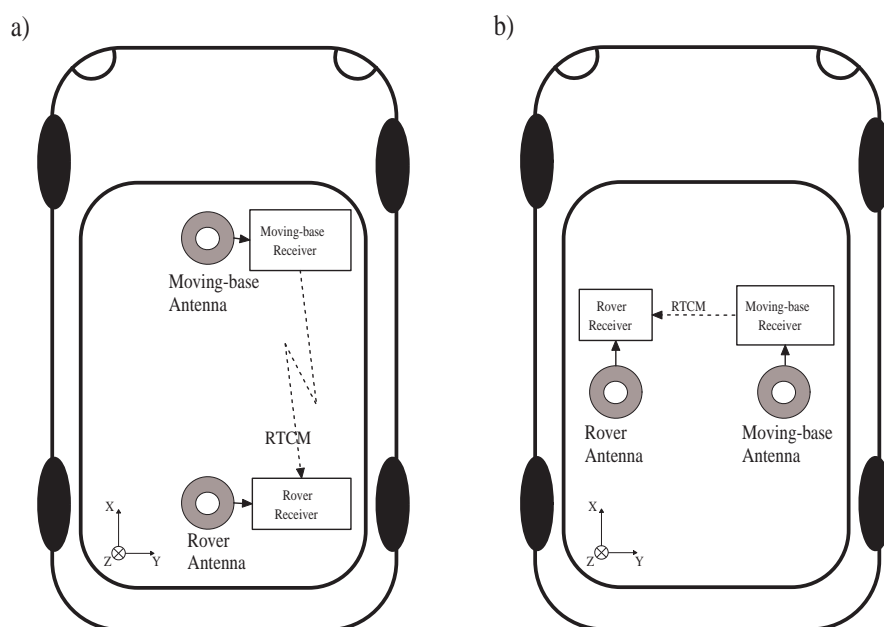

Figure 1-5: Moving-base attitude determination setup. a) default configuration. b) example of non-default configuration.
The heading and pitch of a vehicle can be derived from the orientation of the baseline between a base and a rover antenna when both antennas are attached to the vehicle. The base antenna is connected to a first receiver configured as RTK moving base station. The rover antenna is connected to a second receiver configured as RTK rover and accepting the RTCM stream from the first receiver. This is illustrated in Figure 1-5.
1. Attach two antennas to your vehicle. The default antenna configuration is as depicted in Figure 1-5 a). It consists in placing the antennas aligned with the longitudinal axis of the vehicle. If such configuration is not possible, you will have to provide additional information to the receiver, as explained below. For best accuracy, try to maximize the distance between the antennas, and avoid significant height difference between them.
5. By default, the attitude angles are computed assuming that the two antennas are aligned with the longitudinal axis of the vehicle, and that the moving-base antenna is in front of the rover antenna (see Figure 1-5 a)). If you cannot place the antennas in such configuration, the reported attitude angles will be biased. There are two ways to remove these biases:
(a) The biases can be removed by telling the receiver where the moving-base antenna is located in the vehicle reference frame (see appendix A). This is done by specifying the coordinates of the baseline between the rover antenna reference point (ARP) and the moving-base ARP in the X, Y and Z directions. For example, in the configuration b) of Figure 1-5, assuming that the distance between the antenna ARPs is 1 meter, you would issue (on the rover receiver):